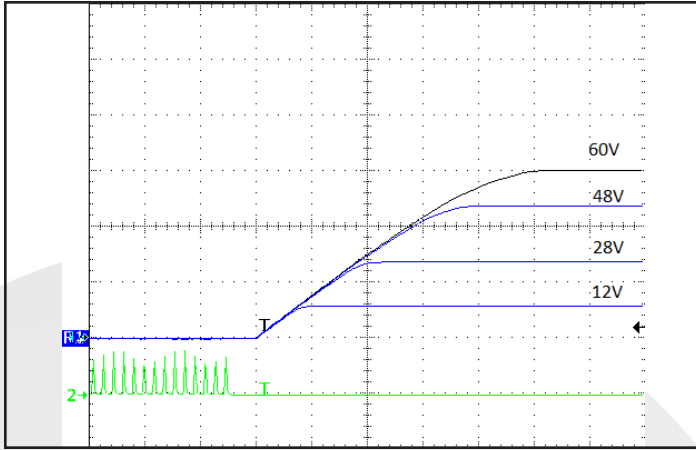

Figure 7: Turn-on transient at 28V input; full load (10ms/div). Top Traces: Vout (20V/div). Bottom Trace: ON/OFF input (5V/div)
**REMOTE ON/OFF:** Only Negative On/Off logic is available in the converter series: logic high at the input turns the converter Off while a logic low turns in On. Timing of this is shown in Figures 7, 8. A high level can be driven to any voltage between 1.5V and 3.3V, or simply left floating as the unit contains an internal 25KΩ pull-up to 5.0V. The pin can be pulled low (to  $V_{out-}$ ) by an optocoupler, an open-source/drain transistor or wired permanently to  $V_{out-}$ . To provide noise immunity the input has 0.3V of hysteresis.